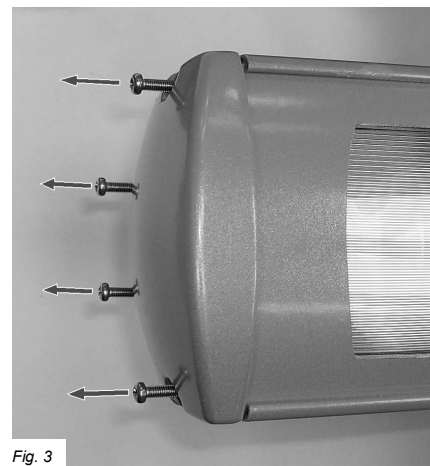

Fig. 3
5. Unscrew the four screws (see Fig. 3) from the end cap and remove from the heater body. Repeat at opposite end.
6. Slide out the side covers from both ends and slide out the guard from either end (Fig. 3 & 4 shows side covers with lenses for models with lights).